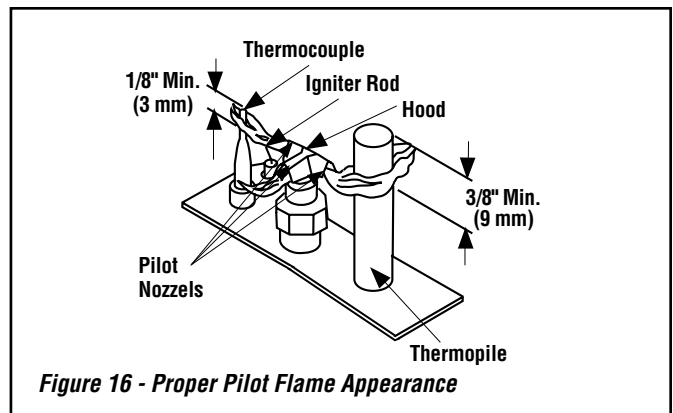

Figure 16 - Proper Pilot Flame Appearance
**Step 18.** Light the appliance per the lighting instructions label on appliance (located below glass door) or lighting instructions on **Page 36** in the *Installation and Operation Manual*. Inspect for proper pilot and burner flame appearances. See *Flame Appearance and Sooting* on **Page 19** and *Inspect The Pilot System For Proper Flame* on **Page 22** in the *Installation and Operation Manual*. Also see **Figures 16 and 17** below.